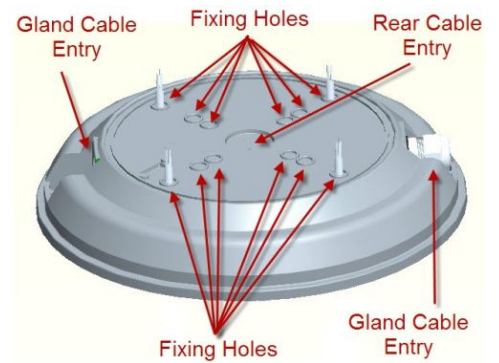

Fig2
- Drill through 4 of the 12 fixing hole positions) on the back of the base and side cable entry(see Fig 2).